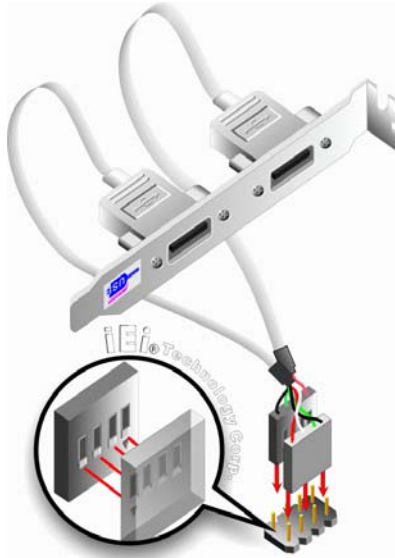

Figure 5-12: Dual USB Cable Connection
Step 3: Insert the cable connectors. Once the cable connectors are properly aligned with the USB connectors on the KINO-690S1, connect the cable connectors to the onboard connectors. See **Figure 5-12.**